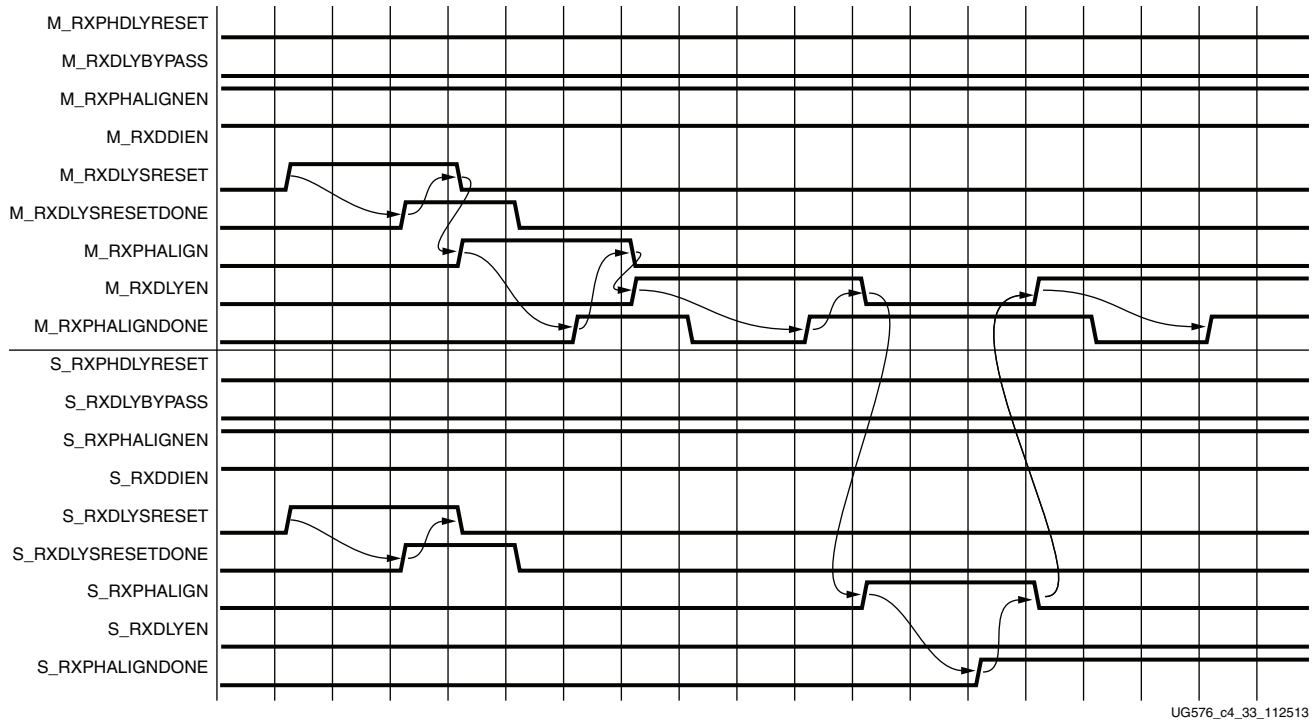

Figure 4-33: RX Phase and Delay Alignment in Manual Mode
Figure 4-33 shows the required steps to perform manual RX phase and delay alignment.
Notes relevant to Figure 4-33:
1. The sequence of events shown in Figure 4-33 is not drawn to scale.